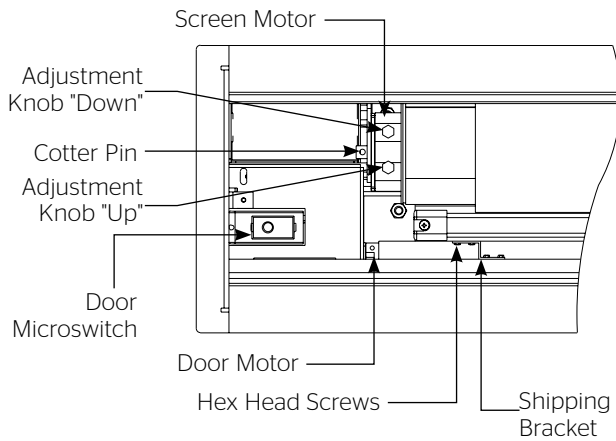

Figure 2
6. Remove shipping brackets by removing the hex head screws from aluminum slat and case. Slat should move freely. See figure 2. (Only if the roller assembly is preinstalled.)
2. When the screen stops, turn the "down" limit knob (Fig. 2) one-quarter turn counterclockwise. Test by raising picture surface approximately two feet, then lower again. Repeat until desired picture surface position is attained.
3. Turn the "down" limit switch (Fig. 2) one-quarter turn clockwise. Test by raising picture surface approximately two feet, then lower again. Repeat until desired picture surface position is attained.